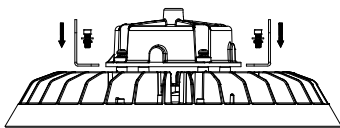

Figure 4
① Install the bracket fixing base on the luminaire with screws (Figure4)